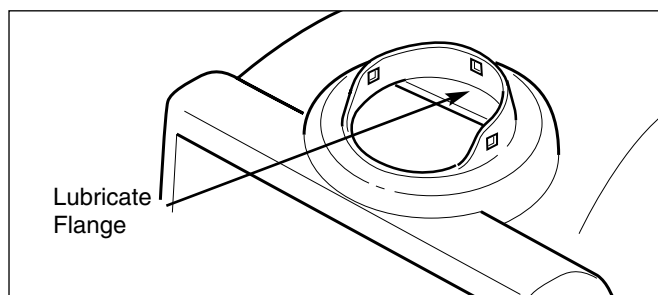

Figure 8. Grease the Discharge Chute Ring
- At the beginning of each snow throwing season, remove discharge chute, clean, and generously lubricate steel flange at back of rotating ring with light grease. Rotate ring with crank to distribute grease (Figure 8).